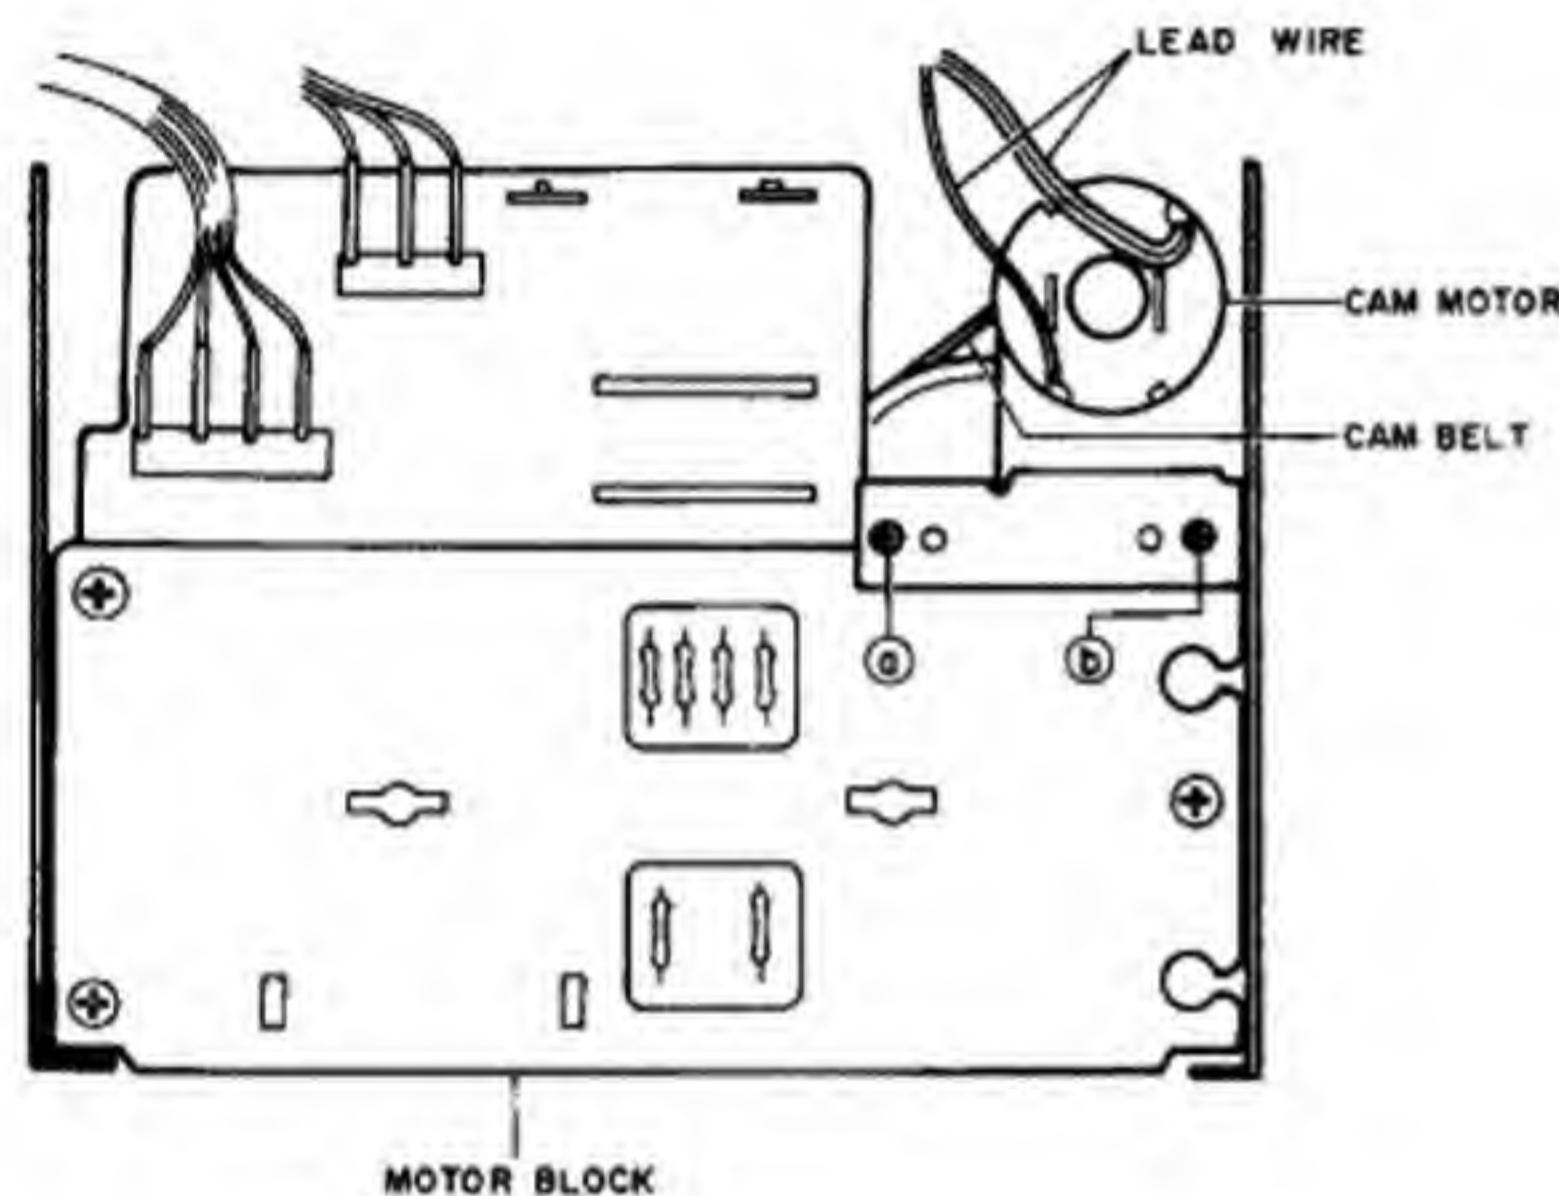

Fig. 4-7
- 3) Remove cam motor base screws **a** and **b** from the motor block. (See Fig. 4-7.)